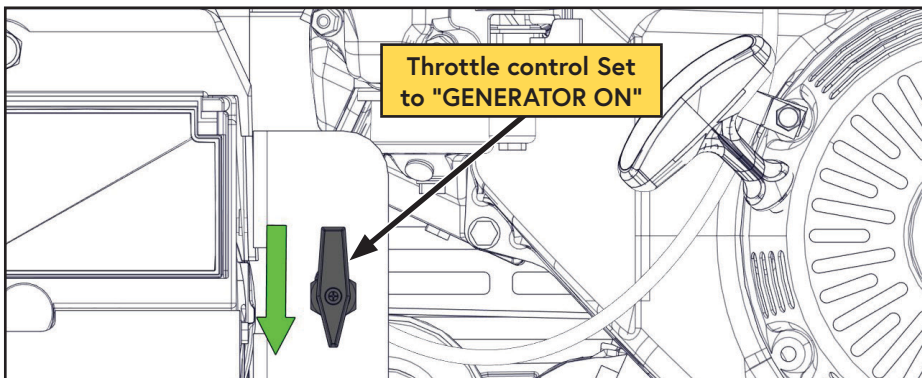

Figure 26 — Throttle control valve
- Turn the throttle control valve to "GENERATOR ON" (Figure 26).